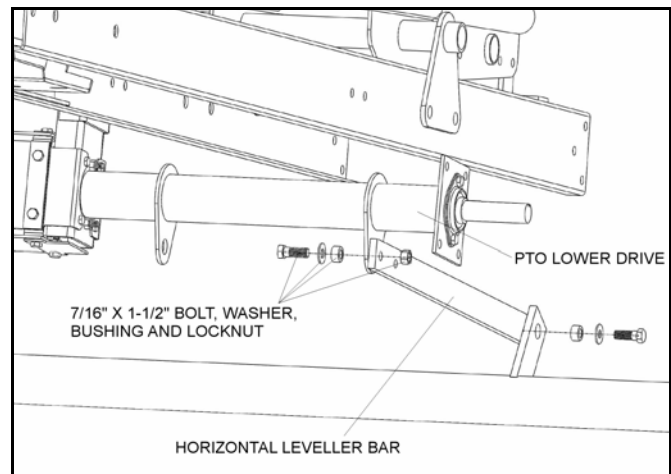

Figure 3.45
9. Bolt horizontal leveller bar to the aligned tab on PTO lower drive with 7/16" x 1-1/2" bolt, flat washer, bushing, and locknut as shown in Figure 3.45.